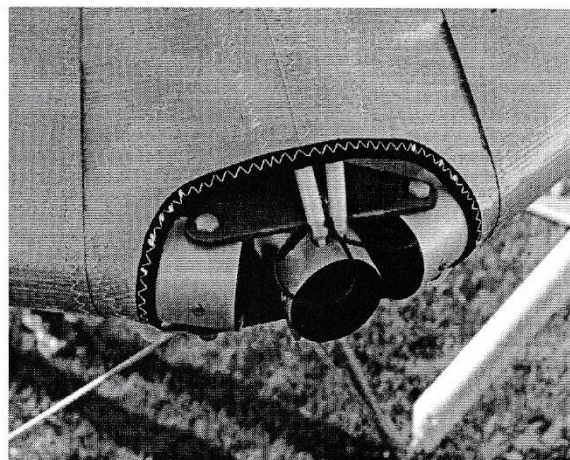

Figure 12
8. By lifting up and back of the nose batten strings, push the nose battens fully back into the sail so that the batten tips rest in the holes on top of the keel tube (fig. 12).